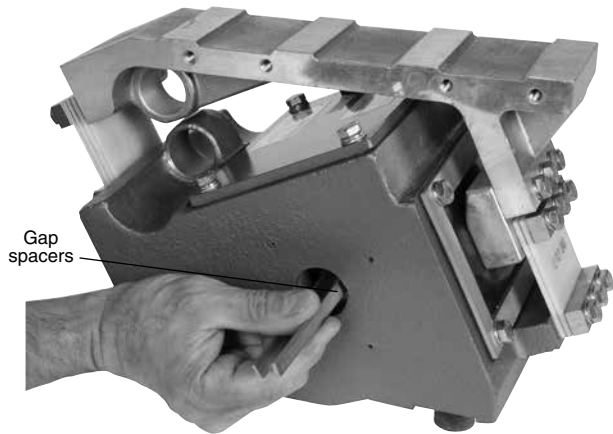

FIGURE 4
Refer to the Parts List Drawing and Figs. 4, 5, 6 & 7.
1. Remove both nameplates and insert the two gap spacers (furnished with the unit) between the E-frame center leg and the two armature pole pieces (see Figure 4 & 5).
If spring failure is suspected, the rear tuning spring stack should be removed after first inserting the two gap spacers between the center leg of the E-frame and the two pole pieces (Figure 4 and 8). The purpose of this is to hold the tiebar or tray-tiebar assembly in position while the tuning springs are removed.